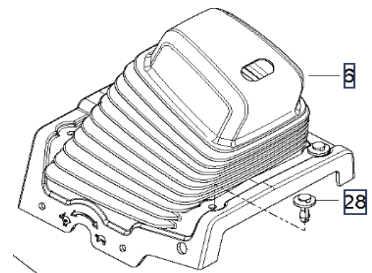

Fig. 1:
- a) If the product has control lever bellows, remove the rivet pins and slide the bellows up (figure 1).